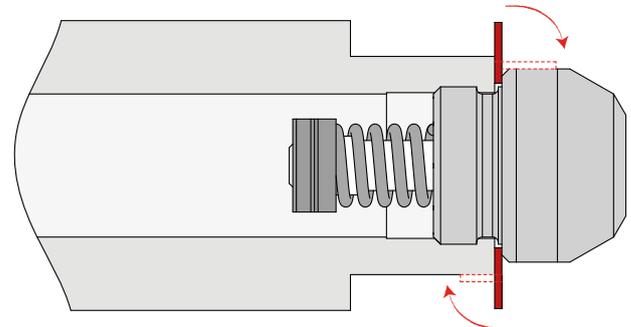

fig.5 Bending the tab washer
3. Secure the nozzle using the tab washer by bending it as shown in fig.5. Make sure that one side of the washer is bent over the milled half of the nozzle and the other is bent over the nozzle holder. **Incorrect tab washer installation can result in damage to the system and to downstream components.**